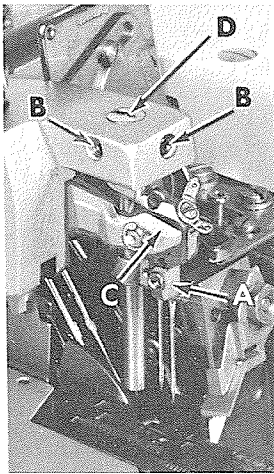
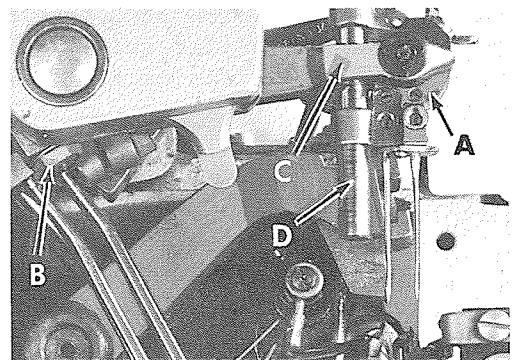
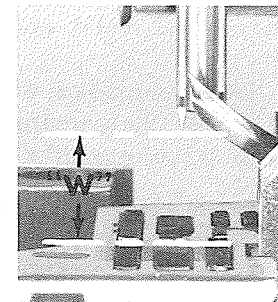

Fig. 5
Fig. 6
Fig. 7
With throat plate assembled in position, the needles should center in the throat plate needle slots (left to right). The needle head (A, Figs. 5 and 6) can be repositioned by loosening set screws (B, Fig. 5) and binder screw (B, Fig. 6) in needle drive
lever (C, Figs. 5 and 6); then simultaneously turning needle head guide bar (D) which is an eccentric and sliding the needle drive lever (C) to the left or right on needle rock shaft as required to alleviate bind.
When proper left to right needle position is obtained, tighten set screws (B, Fig. 5) securely and tighten screw (B, Fig. 6) lightly. Needle drive lever (C, Figs. 5 & 6) must also be positioned to set height of needles above throat plate which should be 7/16 inch (11.11 mm) on Styles 39800 AA and AB; 17/32 inch (13.49 mm) on Styles 39800 AL, AN AP, AQ, AT, AW, AX, AY, VAL, VAN, VAQ, VAW, VAX and VAY with needles at top of stroke (W, Fig. 7). Tap the needle drive lever (C, Figs. 5 and 6) lightly up or down to obtain desired needle height. Needle gauge No. 21227 DD can be used by placing it on top of the throat plate and bringing the needle head bottom to rest on top of the gauge. This will have the needles at the bottom of their stroke. Note that the gauge has separate heights, one for high, the other for low capacity machines. Tighten screw (B, Fig. 6) securely.